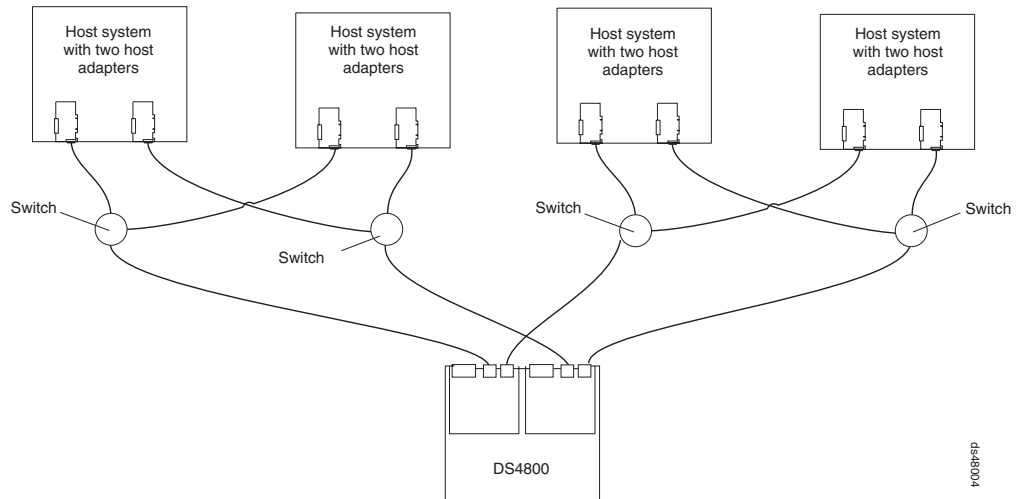

Figure 70. Example of a two-cluster configuration
- Two clusters, as shown in Figure 70 on page 99
Figure 70 on page 99 gives an example of one DS4800 and four host systems configured into two clusters; each cluster comprised of two host systems and two fibre channel switches.